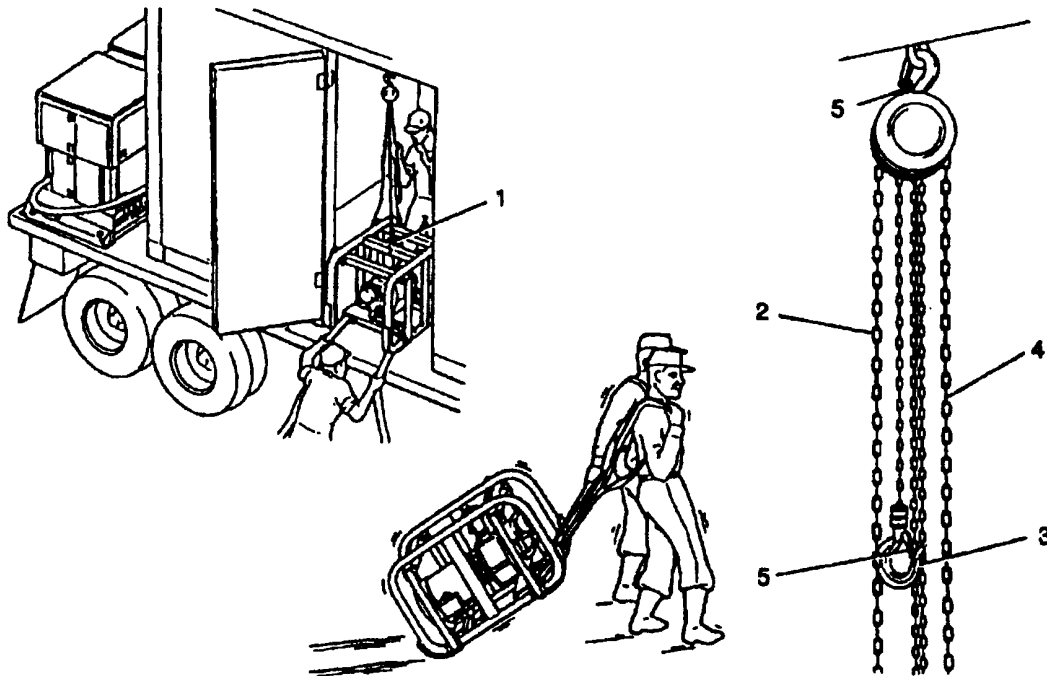
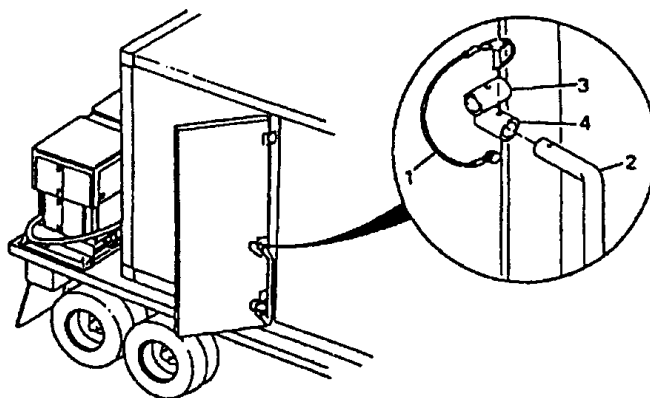

Figure 2-25. Unloading Raw Water Pump
Figure 2-26.1. Handrail Installation
- (a) The chain hoist is already attached to the eyebolt (1, Figure 2-25) on top of raw water pump.
- (b) Pull down on one side of drive chain (2) to raise load hook (3). Pull down on other side of drive chain (4) to lower load hook
- (c) Always latch the safety latches (5) after the hooks are attached to eyebolts.
- (8) Using hoist and pushing carefully on pump frame, crewmember in van with help from crewmember on ground "steers" the pump through the doorway and lowers it to the ground (Figure 2-25). Crewmembers on ground pull pump clear of access area.
- (25) Setup handrail on raw waterside ISO shelter door (Figure 2-26.1).
- (a) Remove pins (1) and side handrail (2) out of brackets (3).
- (b) Replace handrail (2) in bracket (4) so it is at a 90' angle to the door.
- (c) Replace pins (1) on brackets (4).
- (1) Use the shoulder straps (Figure 2-25) to pull the raw water pump (1, Figure 2-27) into place. Make sum pump location is within limits shown on Figure 2-22 and upstream of cyclone separator if water source is a river or has prevailing flow.